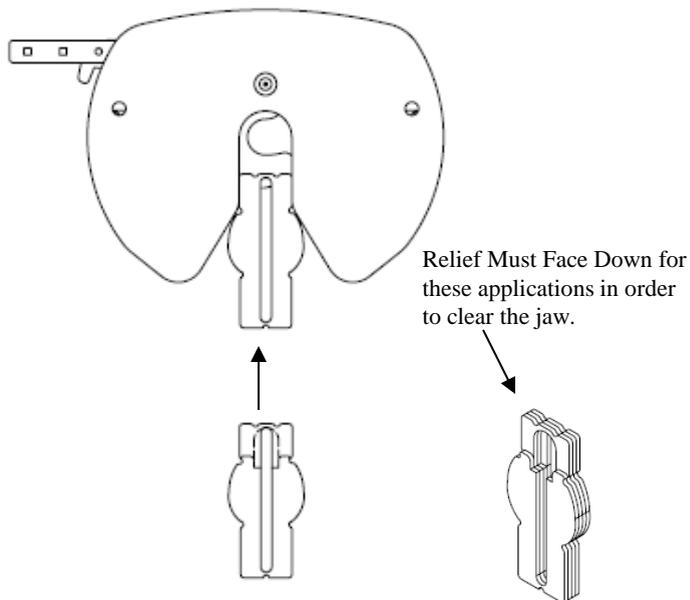

Figure 22
4. Apply grease to the surface on both sides of the wedge, around the kingpin, and the skid plate surface as shown in figure 22. **For all Fifth Wheel Heads, lubricate the area where the jaw passes under the wedge.*